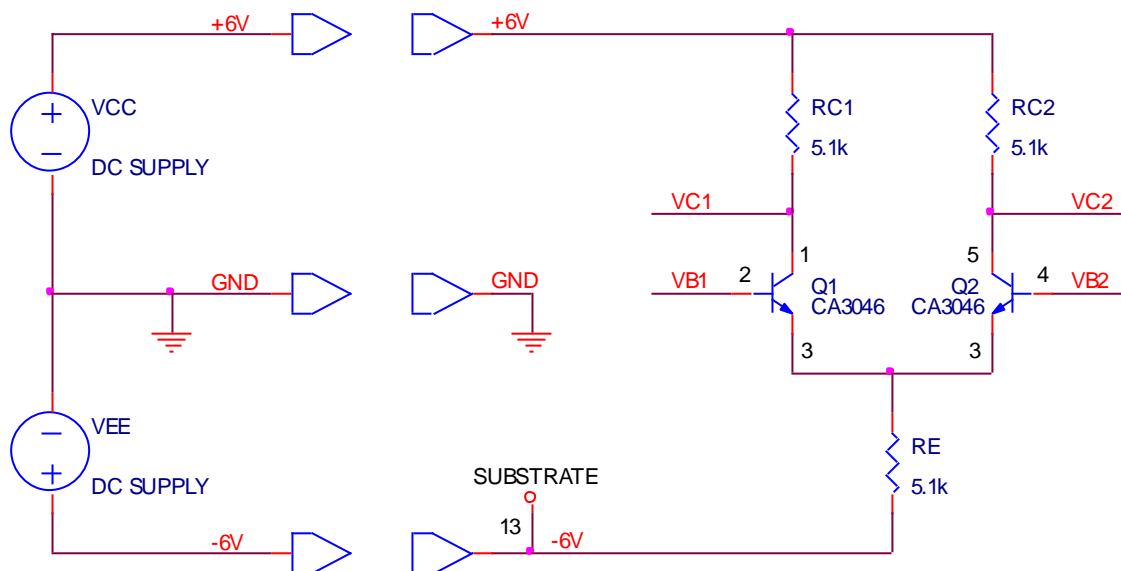

Figure E3.5
**Set-Up** Modify the circuit of procedure 4 to produce the circuit of Fig. E3.5 using the following components:
Connect a 10× probe to the Ch-1 and Ch-2 inputs of the oscilloscope. Configure the oscilloscope to display both channels versus time with a 1 ms/div sweep rate. Configure Ch-1 for 50 mV/div and DC coupling, and Ch-2 for 5 V/div with DC coupling. Trigger the oscilloscope off of the Ch-1 input with AC coupling of the trigger. Connect both probe ground leads to the system ground, connect the Ch-1 probe to the input of the signal generator (node B1 in Fig. E3.5), and connect the Ch-2 probe to the collector of Q1 (node C1 in Fig. E3.5).
**Measurement-5** Turn the DC power supply ON to energize the circuit. You should observe about 10 cycles of the input and output sine waves. The output sine wave, taken from the collector of Q1 should be centered about a DC level of about 3 V, and it should have an amplitude that is significantly larger than the amplitude of the input sine wave on Ch-1. Note the polarity of the output sine wave relative to the signal generator input. Move the Ch-2 probe to the collector of Q2 (node C2 in Fig. E3.5) and again note the polarity of the output sine wave relative to the signal generator input. You should observe that the amplitudes of the two signals on C1 and C2 are the same.